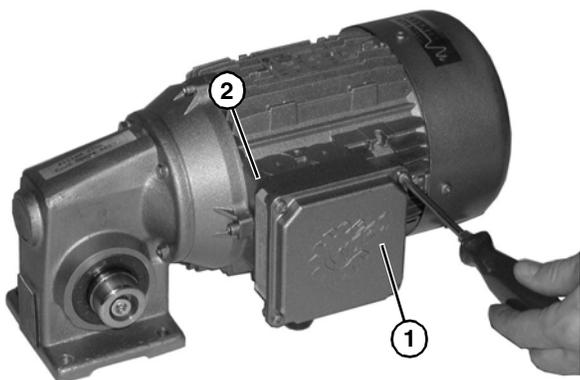

Figure 38
1. Loosen the screws and remove the cover (Figure 38, item 1) from the junction box located on the side of the motor (Figure 38, item 2).